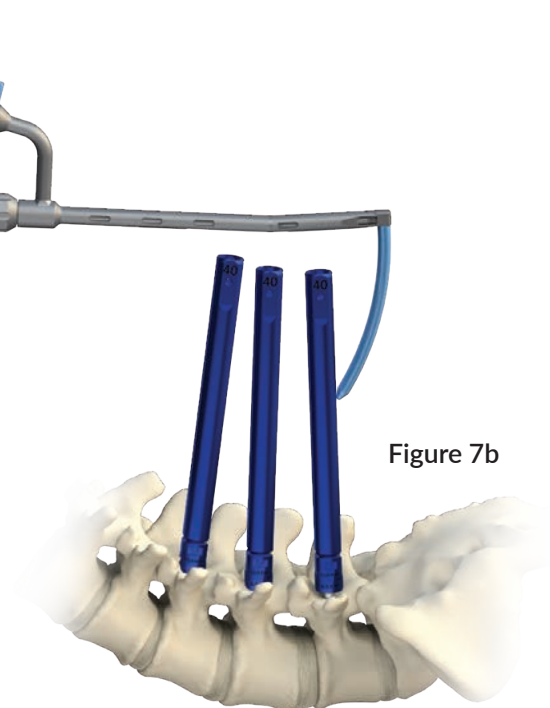

Figure 7b
- Use the MIS Rod Inserter to insert the MIS Rod into the extended tab and below the fascia from the outside slot opening of the extended tab. **(Figure 7b)**